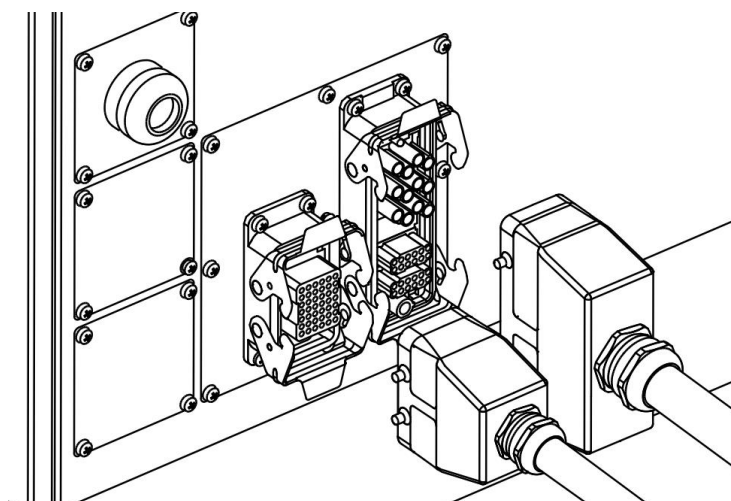

Figure 5-4 Control cabinet heavy load connector interface
- Step2. Insert one end of the power cable and the encoder plug into the corresponding connection port of the heavy-load cable of the control cabinet (see Figure 5-4), and fasten the lock.